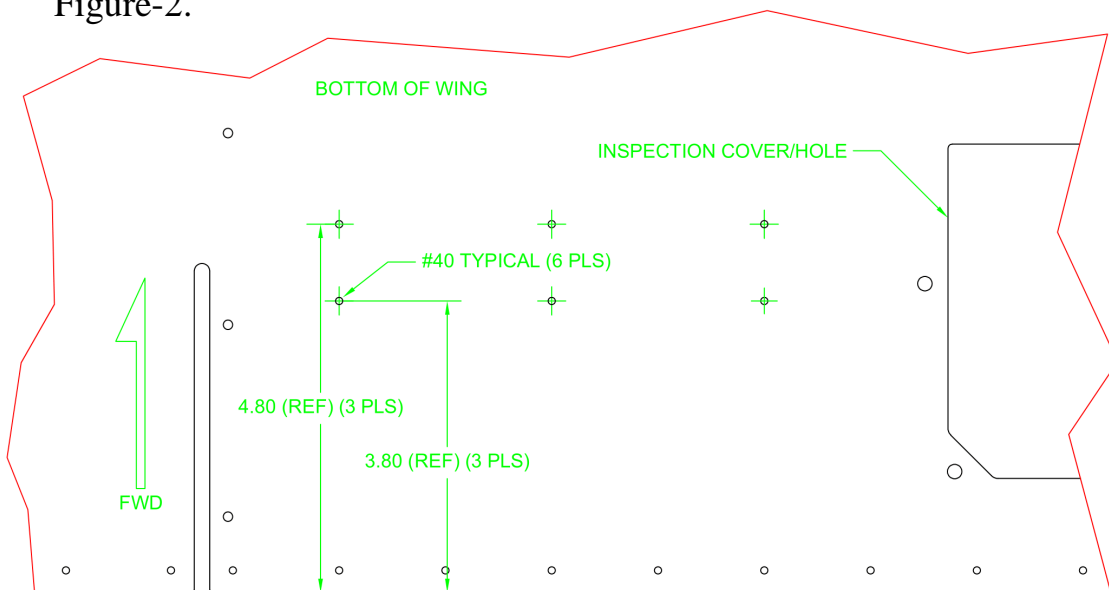

Figure-2
2. Layout the hole locations and drill #40. Debur the bottom wing skin as per Figure-2.